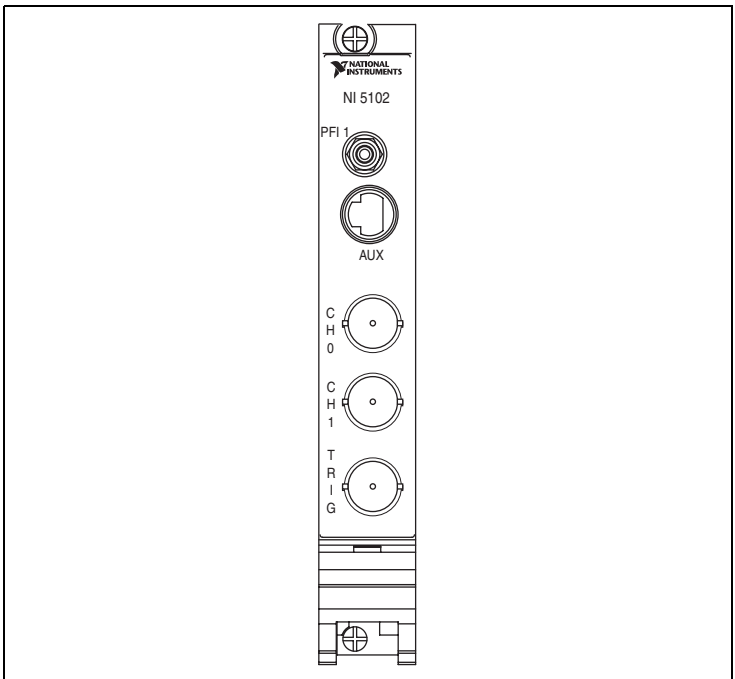
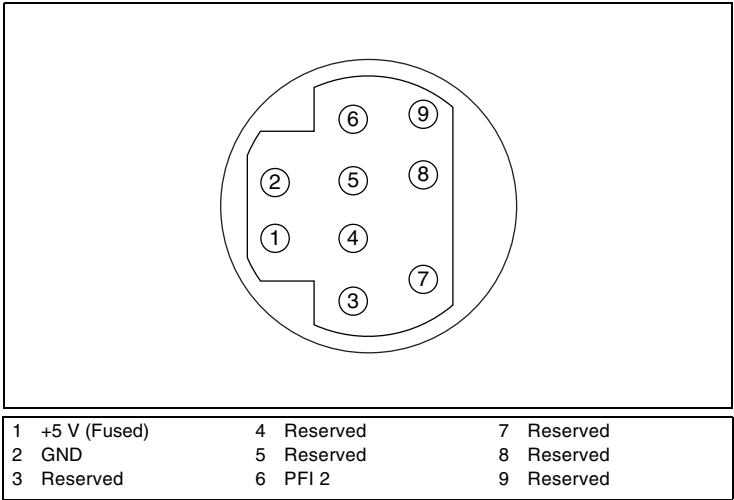
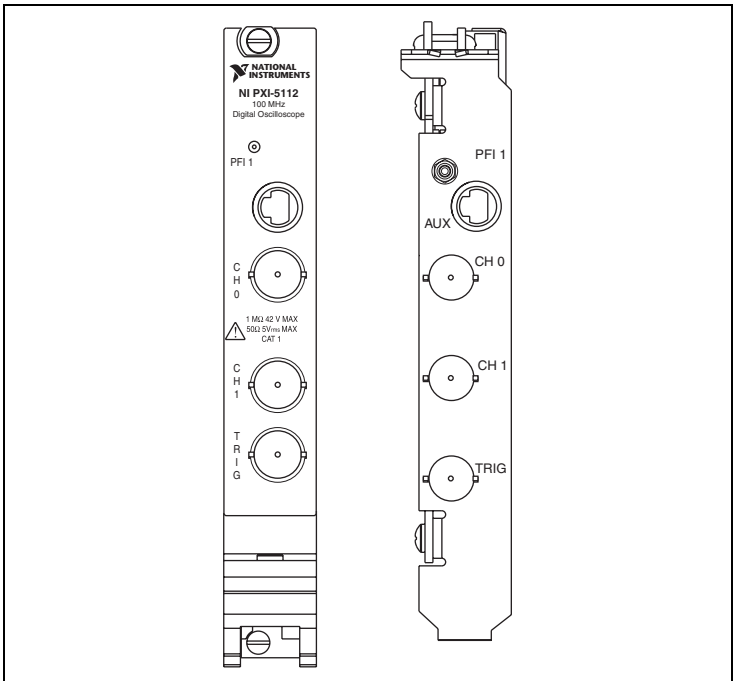
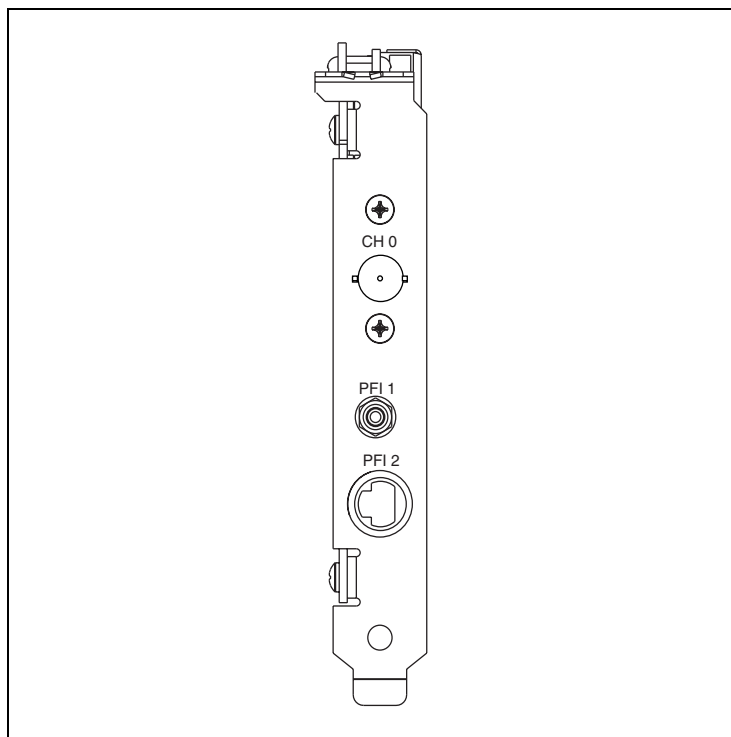

Figure 9. NI PXI-5102 Front Panel
Figure 10. 9-Pin DIN Connector for NI PXI-5102, NI PXI/PCI-5112, and NI PCI-5911
Figure 12. NI PXI/PCI-5112 Front Panels
Figure 14. NI 5911 Front Panel
- ◆ **NI PXI-5102**—Figure 9 shows the NI PXI-5102 front panel. Refer to Figure 10 for the AUX connector pinout information.
Figure 10 shows the pin assignments for the 9-pin DIN connector on the NI PXI-5102.
Figure 12 shows the NI PXI-5112 and the NI PCI-5112 front panels. Refer to Figure 10 for the AUX connector pinout information.
Figure 14 shows the NI 5911 front panel. Refer to Figure 10 for the PFI 2 (AUX) connector pinout information.